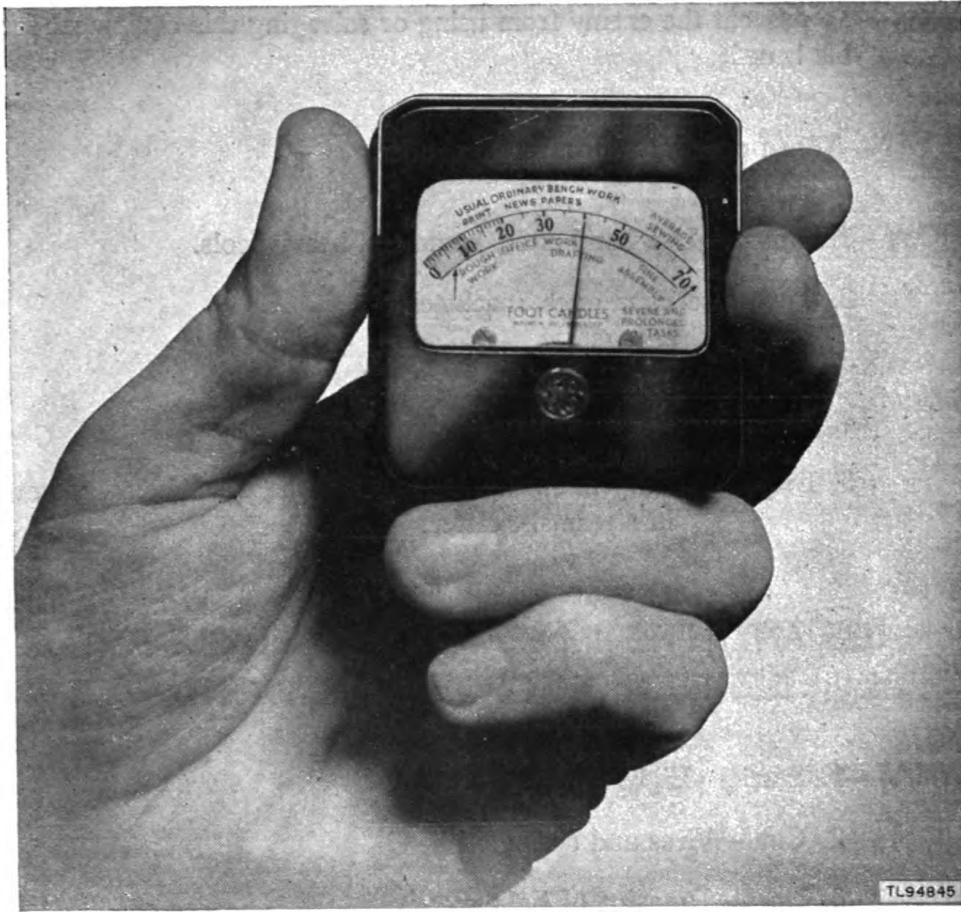

Figure 1. Light Meter (V-Mail).
The Light Meter (V-Mail) (fig. 1) is an instrument for measuring light in foot-candles by the use of a light-sensitive dry plate or barrier-layer cell. The cell, when struck by light rays, sets up a difference of potential and is connected directly to a microammeter. When light strikes the cell, it will actuate the microammeter needle and give readings on a scale graduated in foot-candles up to a full scale reading of 75. The meter is so designed that the face of the scale is at right angles to the recessed light-sensitive cell and, as a result, the meter may be used without the need for shading the cell. Issued with the meter is a 10-to-1 multiplying plate. When placed over the cell window, this plate permits readings up to 750 foot-candles. The light meter is a self-contained unit. The plastic housing measures  $2\frac{1}{4}$  inches square by  $1\frac{1}{8}$  inches thick. The entire unit weighs 7 ounces. Light Meter (V-Mail) is the General Electric model 8DN4042.
*a.* DIAL (fig. 1). The dial of the light meter is protected by glass against damage and dirt. The dial is marked at recommended light intensities for various everyday tasks such as office work, reading, drafting and similar activities. The foot-candle readings are calibrated from 0 to 75.